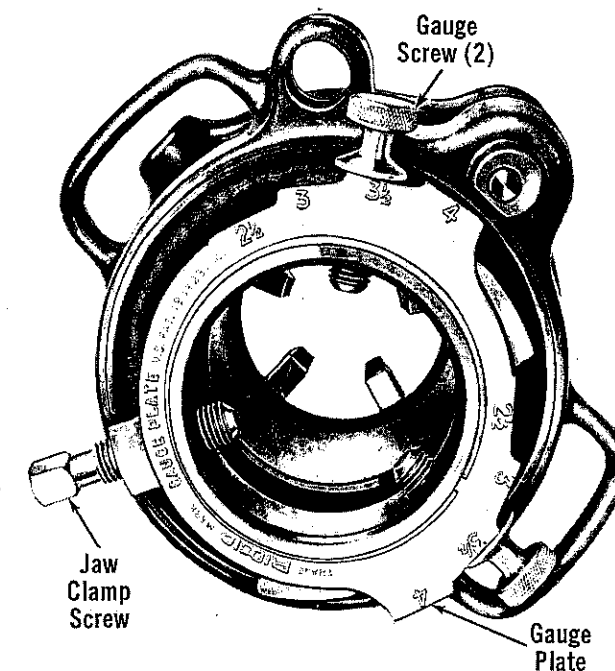

Figure 22. No. 4PJ Geared Threader with Workholder Up.
9. **4PJ only** - Loosen Workholder Clamp Screw (Fig. 22) and remove pipe.
2. **4PJ only** - Loosen Workholder Clamp Screw (Fig. 22) and remove Threader.
Workholder (Pipe Size) Adjustment Procedure (Fig. 22)